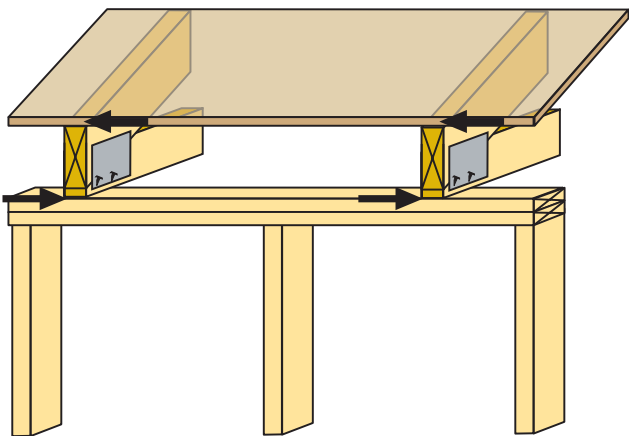

FIGURE B8-7
**Note:** Trusses are intended to carry loads applied parallel to their plane (i.e., depth) and not perpendicular to it. The lateral load transfer through the truss as depicted in Figure B8-7 occurs unless blocking or some other means is provided that will transfer this load directly between the roof sheathing and top plate of the wall. The truss industry places the following general limits on this load transfer through the truss: